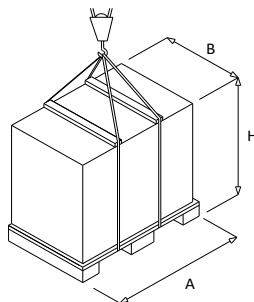
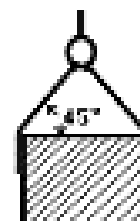

Figure 5
Figure 7
- using a crane, see Figure 5; in this case, respect the maximum rope tension angle which must be max 45° as in Figure 7.